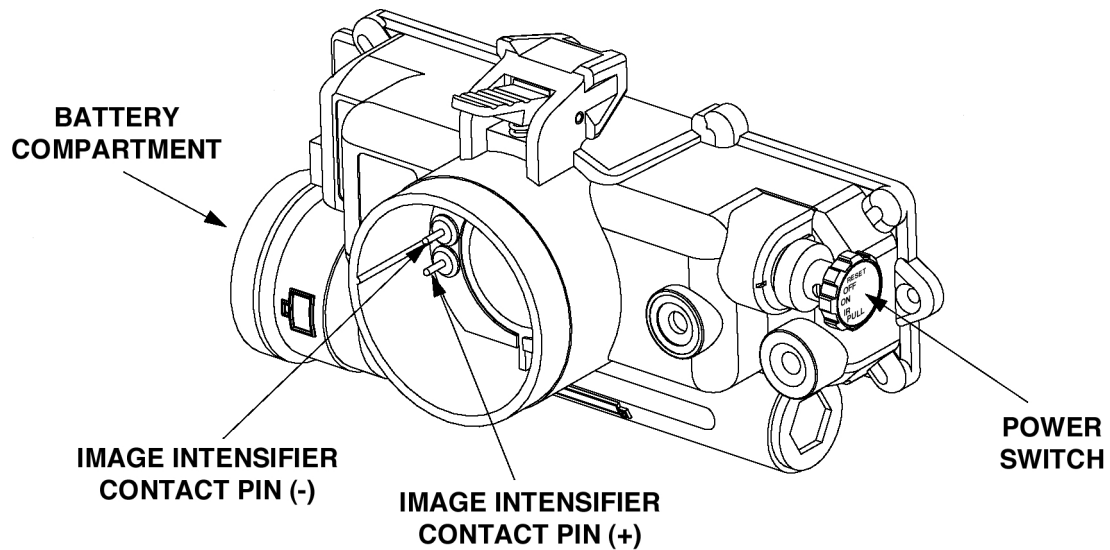

Figure 3-5. Image Intensifier Contact Pin Location.
- (1) Remove image intensifier (para 3-14).
- (2) Set multimeter to measure 3 Vdc.
- (3) With known good batteries in battery compartments, position power switch to ON.
- (4) Apply test probes to the tube contact pins (Figure 3-5). The red test probe goes to positive (+) pin and black test probe goes to negative (–) pin.